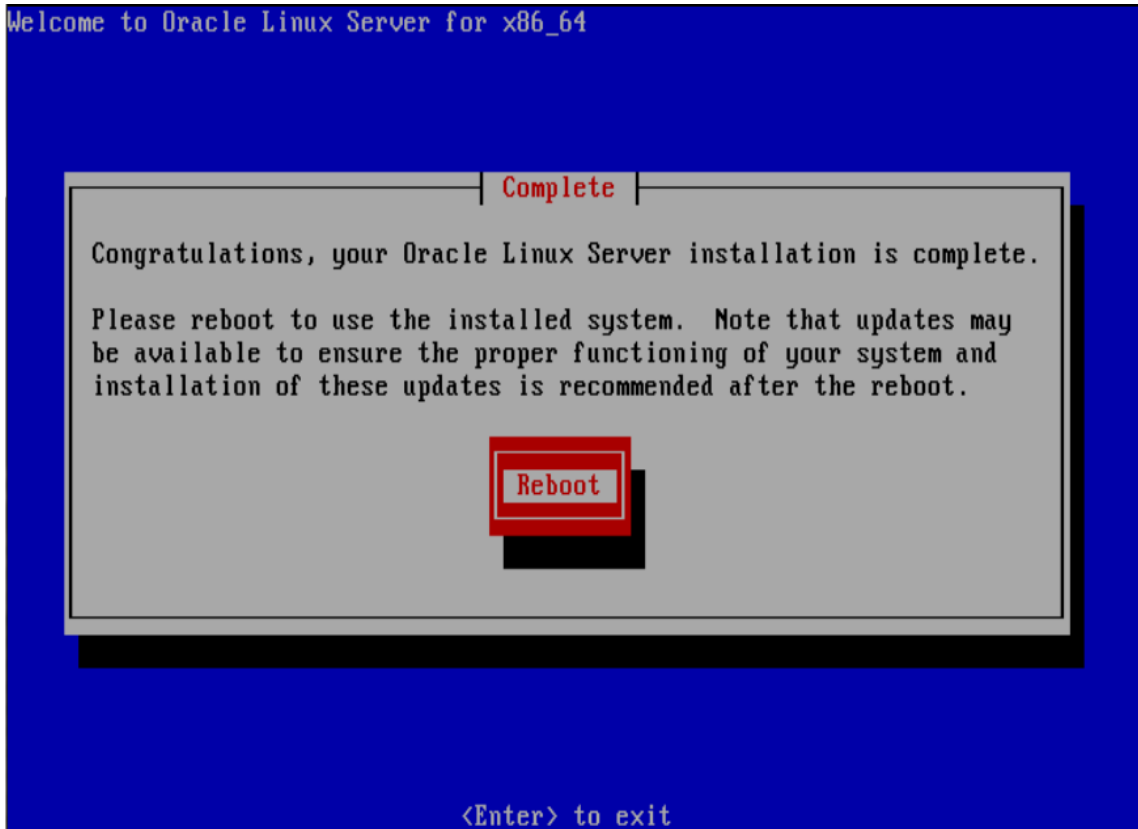

Figure 7: Example installation complete screen
- Once all the packages have been successfully installed, the screen in Figure 7: Example installation complete screen will appear, letting you know the installation process is complete. Remove the installation media and then press <ENTER> to reboot the system.